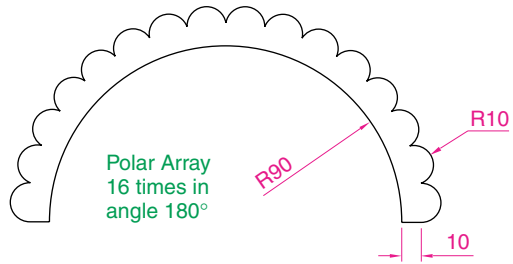

Fig. 5.56 Exercise 10
10. Construct the drawing in Fig. 5.56. All parts of the drawing are plines of width = 0.7. The setting in the **Array** dialog is to be **180** in the **Angle of array** field.